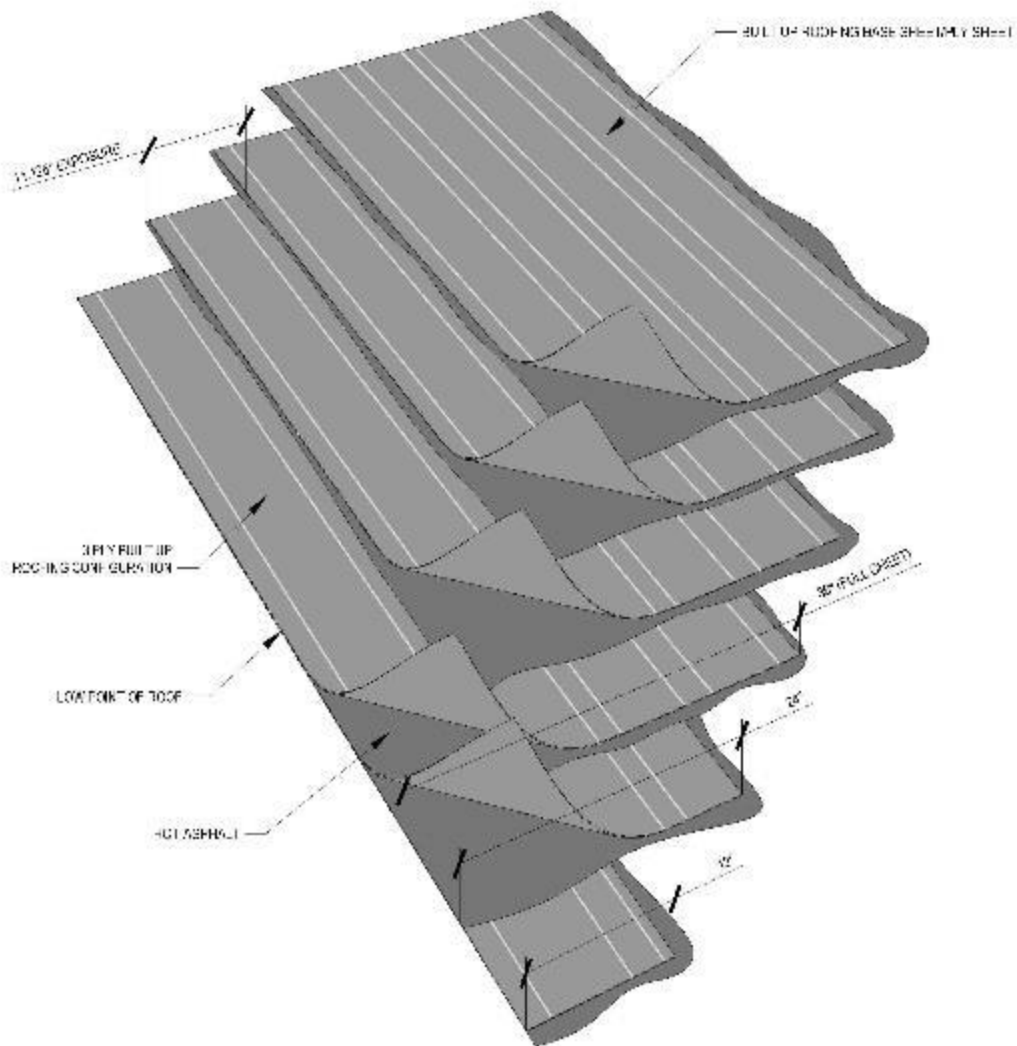

Figure 2.2b Three (3) Ply Built Up Vapor Retarder Configuration
- THREE (3) PLY BUILT-UP VAPOR RETARDER APPLICATION (Refer to Figure 2.2b):